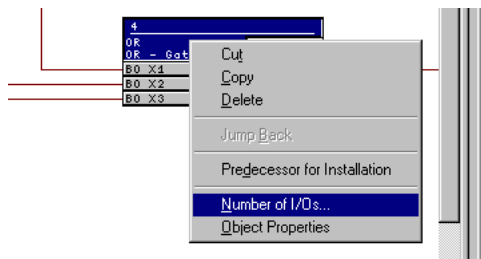

Figure 5-33 Example of an OR Lattice: Module Menu
The default run-time sequence is determined by the sequence of the insertion of the logic modules. You may redefine the run-time sequence by pressing Ctrl – F11 on the PC keyboard. Please refer to the CFC manual. The necessary function modules (FM) are contained in a library located to the right of the configuration chart. The module also indicates to which of the four task levels (MW_BEARB, PLC1_BEARB, PLC_BEARB, SFS_BEARB) it is assigned. The modules possess at least one input and one output. In addition to these inputs and outputs, which are displayed on the configuration sheet, a module may have additional inputs. The additional inputs can be made visible by selecting the module title block, pressing the *right* mouse button, selecting the menu option **Number Of I/Os...** (see Figure 5-33), and then increasing the number.